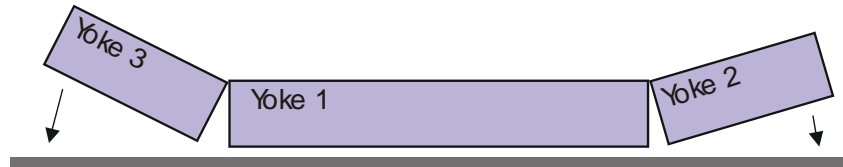

Figure 9: Principle of controlled rotational mounting of the magnet yokes
***Take care: apply the principle of controlled rotational mounting. Uncontrolled approach may cause damage to the magnets (see Figure 9).***